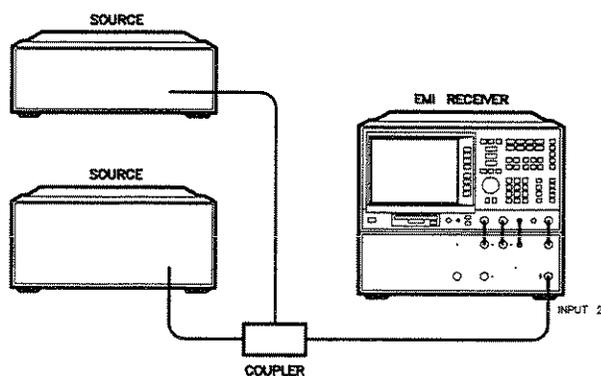

Figure 6-23. Set-Up for Obtaining Two Signals
1. Connect two signal generators to the input of the receiver as shown in Figure 6-23. Set one signal to 300 MHz, 92 dB μ V (-15 dBm) and the other to 305 MHz, 57 dB μ V (-50 dBm). Increase the amplitude of the 305 MHz signal if it is masked by the noise level of the 300 MHz source.